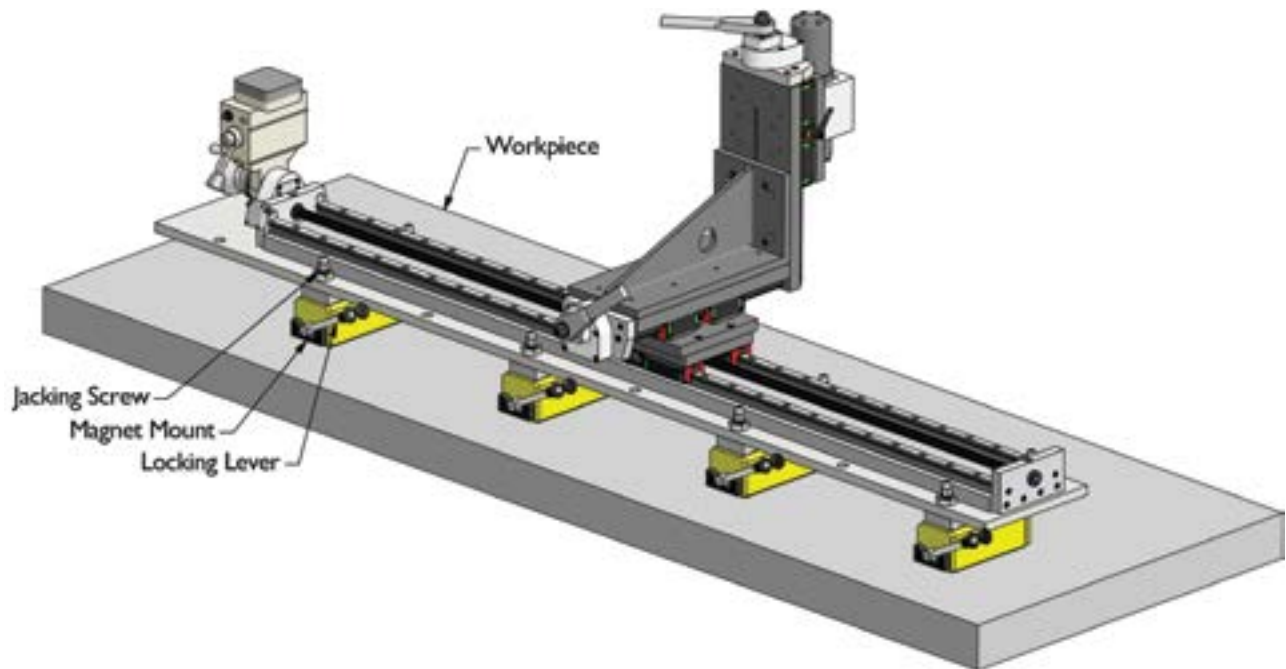

Figure 4 - Magnet Mount Attachment
1. See Figure 4. The magnet mounts can be used on any clean, ferrous surface. Thoroughly clean the attachment area to remove scale, rust, paint, or any other materials that may interfere with the magnet holding power. Use enough magnet mounts to fully support the mill.